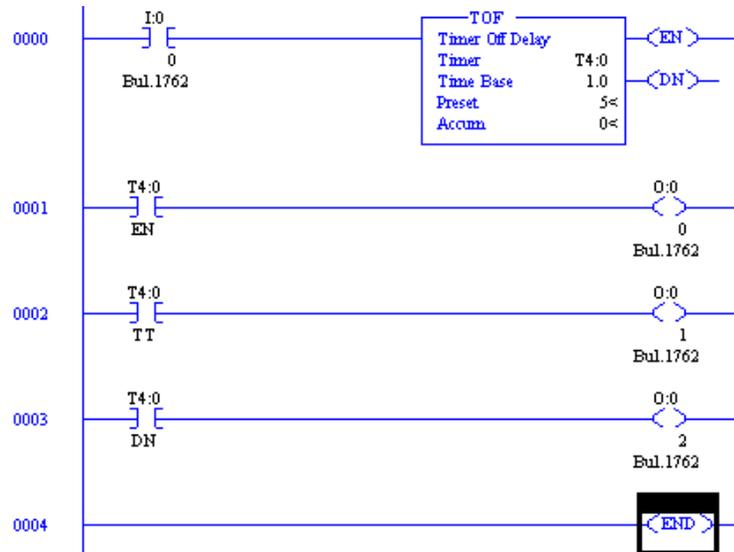

Figure 57. Ladder program using a TOF instruction.
- 20.** Replace the TON instruction with a TOF instruction in your program. Set the parameters of the TOF instruction as shown in Figure 57.